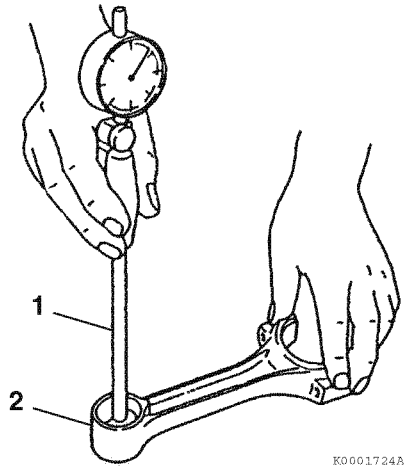

Figure 6-56
1. Measure the wrist pin bushing bore using a bore gauge (1, **Figure 6-56**). Record the measurement. Replace the bushing if not within specifications. If the bushing has been removed, measure the inside diameter of the connecting rod small end (2, **Figure 6-56**). See *Connecting rod on page 6-12* for specifications.